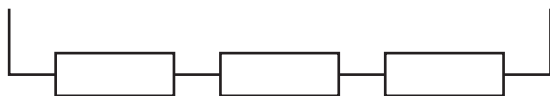

Figure 3.3
6. Resistor Network Z is to be set up for candidates as shown in Figure 3.3.
Check that Resistor Network Z is as shown in Figure 3.3 and check that it is labelled Resistor Network Z.